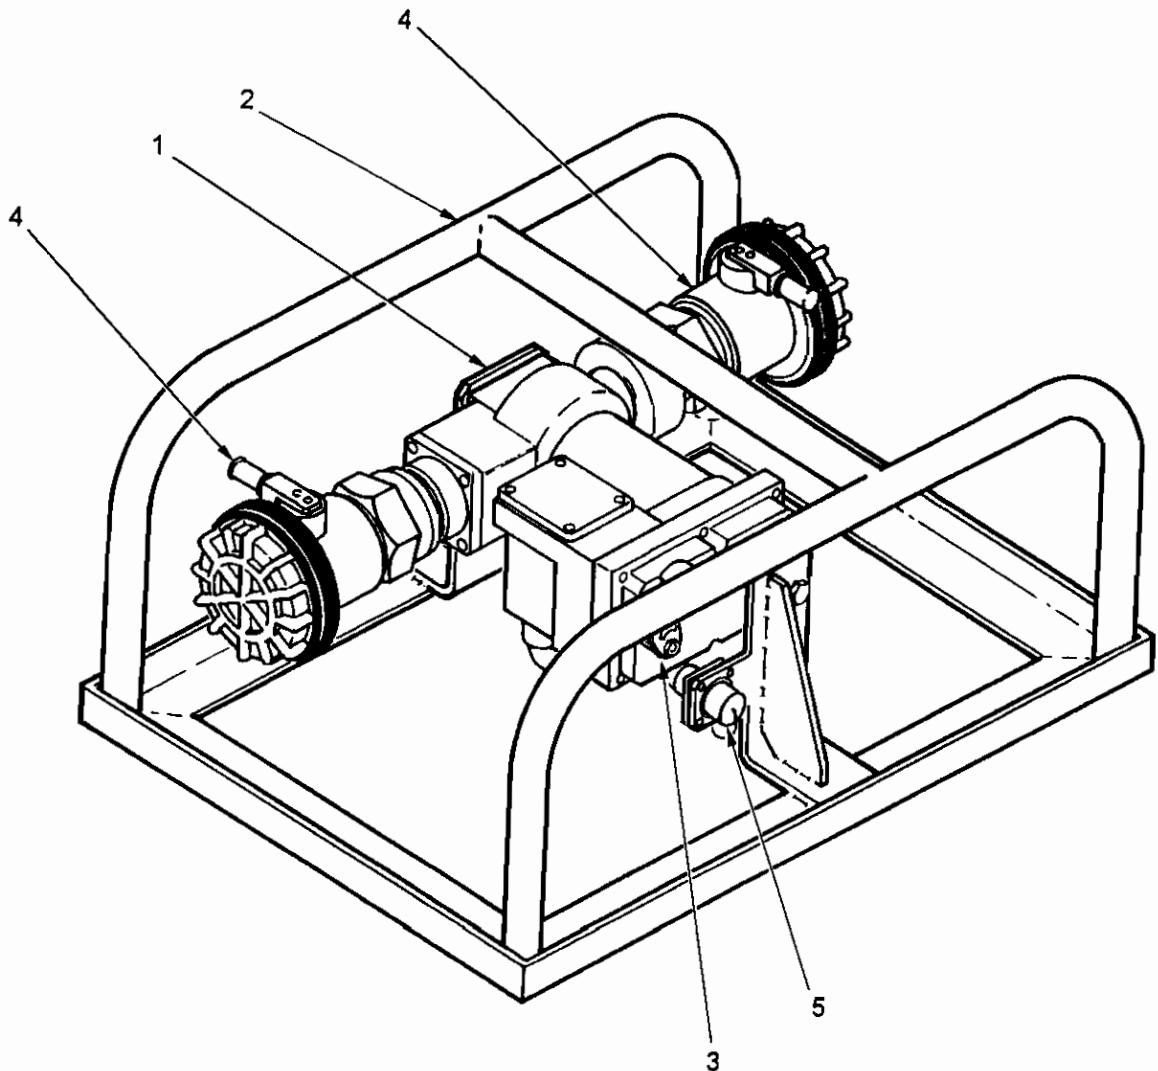

Figure 1-15. Auxiliary Pump Module
The auxiliary pump module, figure 1-15, consists of a 24 vdc electric pump (1) mounted in a tubular frame (2). The pump is equipped with an on/off switch (3) and two-inch valved unisex couplings (4) at both inlet and outlet. An electrical power connector (5) allows the pump to be connected to the auxiliary power leg of the battery power cable (W202) from the accessory module. The auxiliary power cable is 50 ft. (15.24 meters) in length, allowing the auxiliary pump to be used anywhere within a 50 ft. (approx. 15 m) radius of the accessory module.